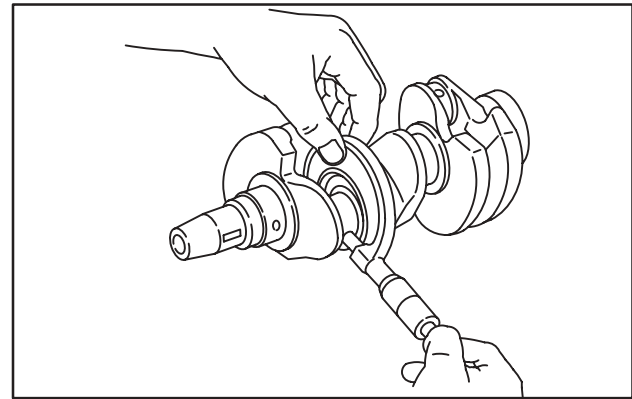

Fig. 1 – Checking Journals
1. Check the main bearing and crankpin journals for wear and taper, Fig. 1.